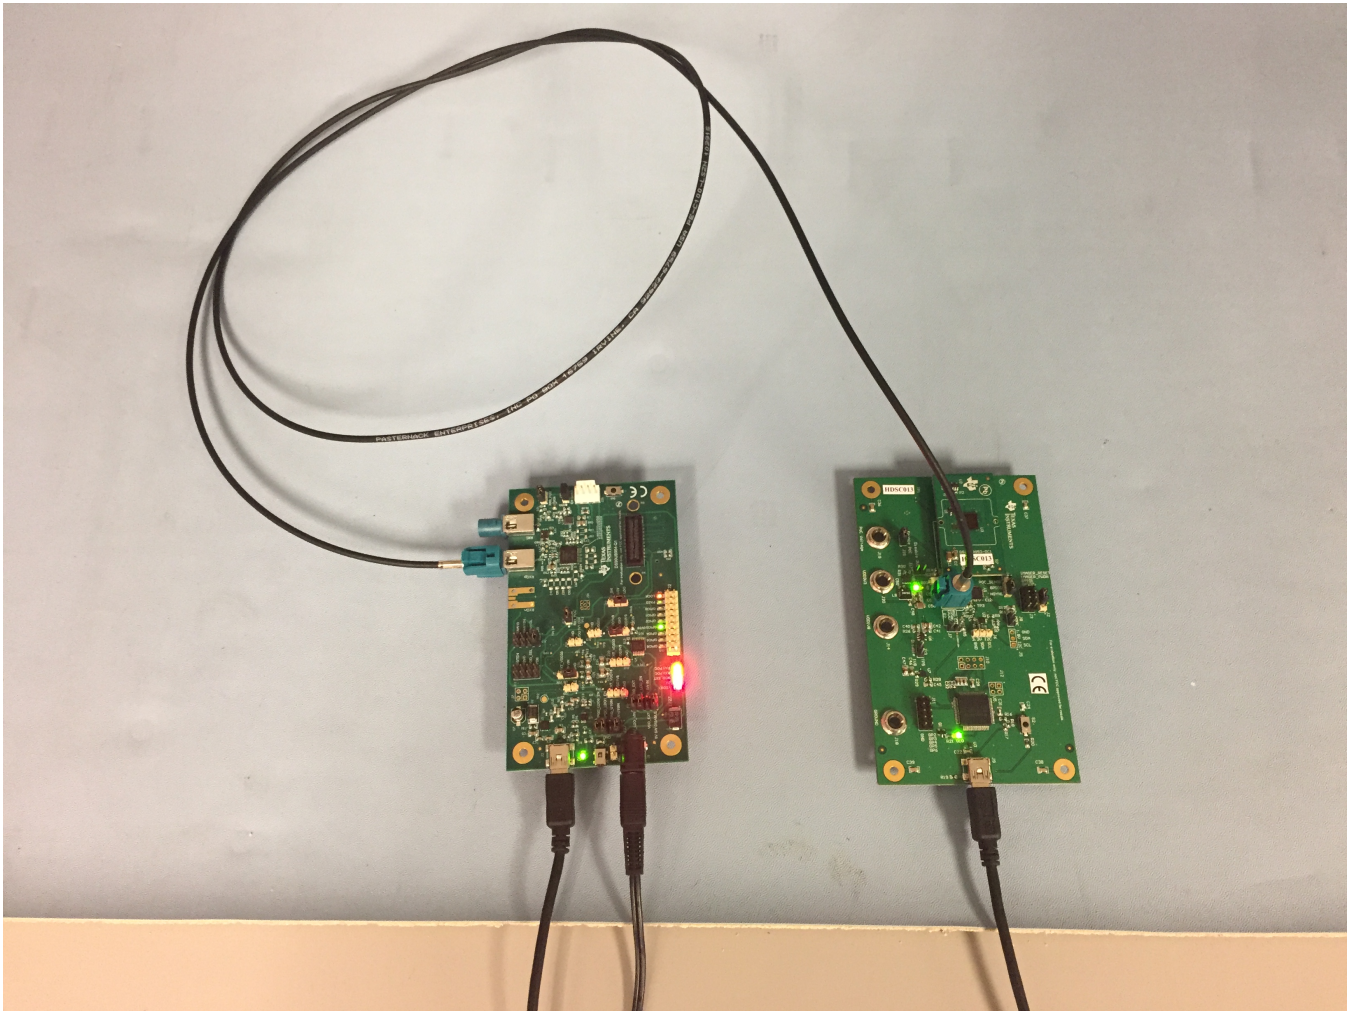

**Figure 36. DS90UB95x-Q1EVM With Installed Jumpers**
- On the DS90UB953EVM, ensure that jumpers are covering the headers as shown in Figure 36.